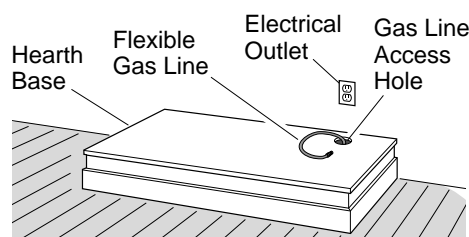

Figure 8 - Placing Hearth Base Accessory Against Wall
- When installing blower, install a properly grounded, 120 volt three-prong electrical outlet at fireplace location if an outlet is not there. If possible, locate outlet so cabinet mantel will cover it when installed (see Figure 8).
- Place hearth base accessory against wall at installation location. Cut an access hole in hearth top to run flexible gas line to fireplace (see Figure 8). Make sure to locate access hole so cabinet mantel will cover it when installed. *Note:* You can secure base to floor using wood screws. Countersink screw heads and putty over.